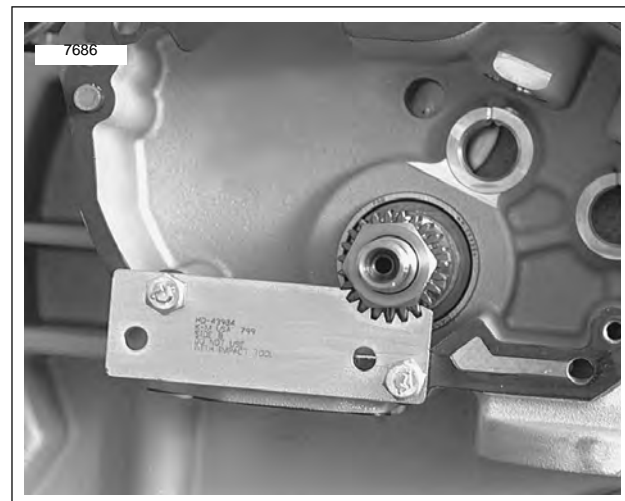

Figure 3-111. Crankshaft Locking Tool (HD-43984)
- b. See Figure 3-111. Install CRANKSHAFT LOCKING TOOL (Part No. HD-43984) to gearcase with "Side B" facing out, over pinion shaft, with two screws.